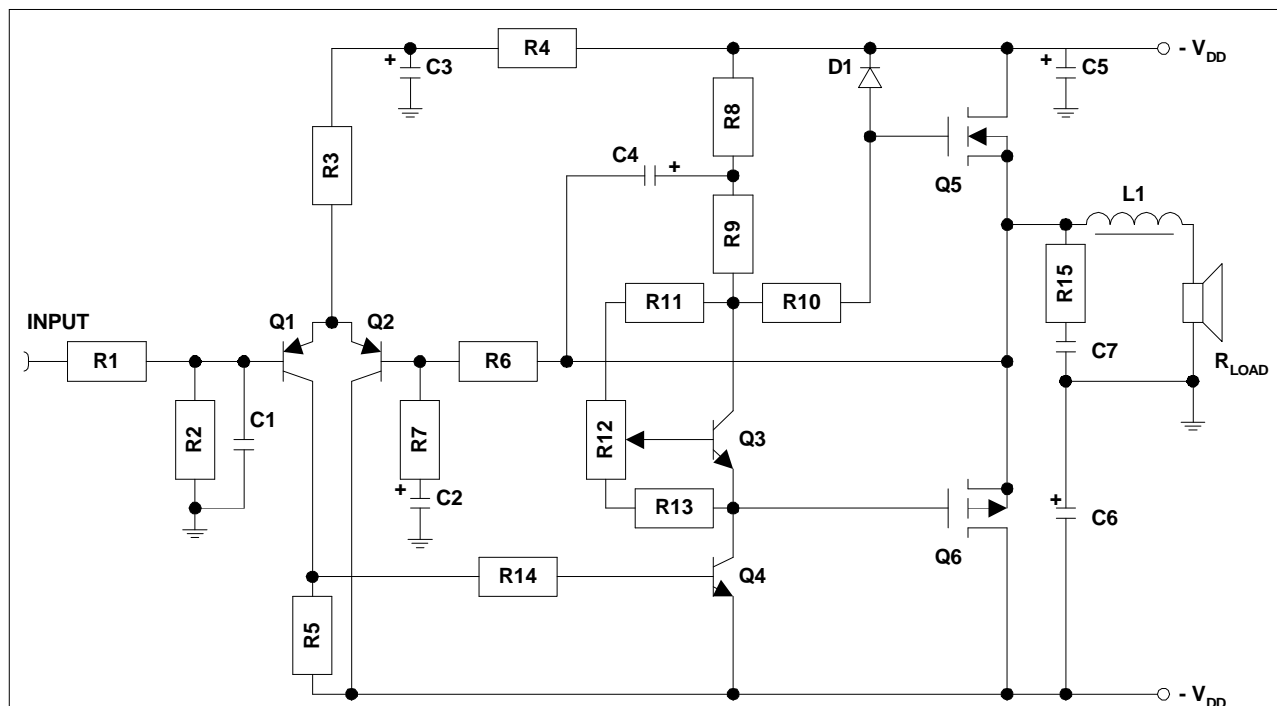
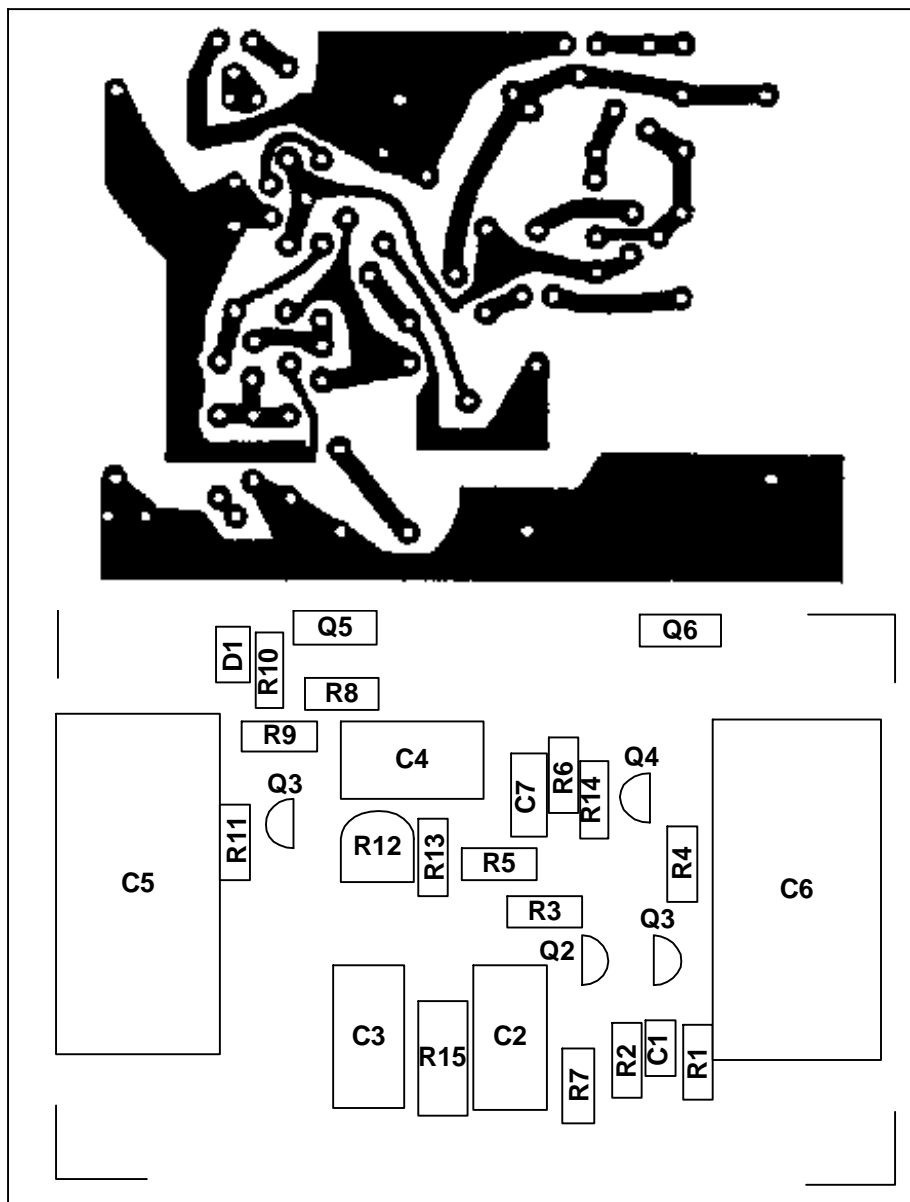
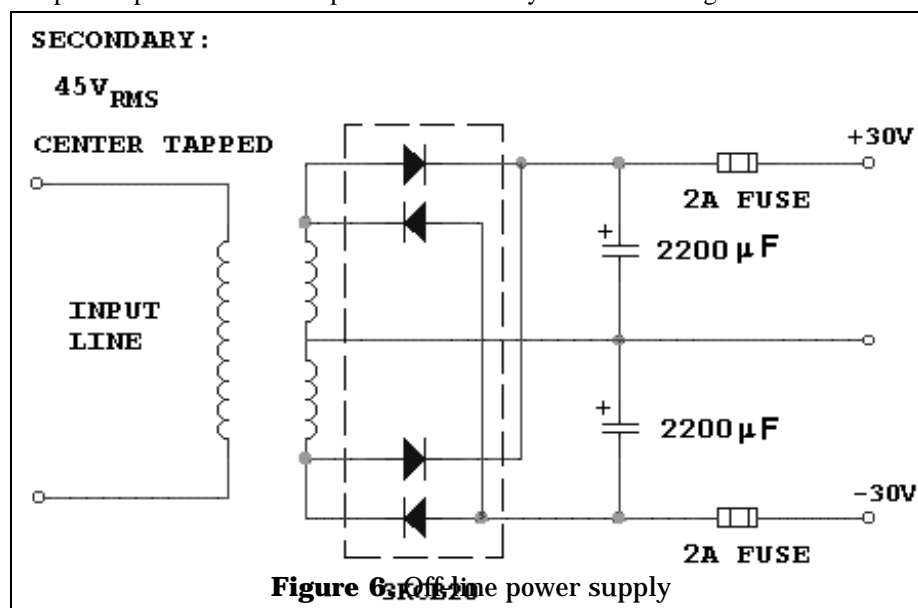

Figure 1. Class AB Amplifier Circuit Diagram
Figure 2. Amplifier Printed Circuit Board Layout
Figure 6. Off-line power supply
The amplifier circuit diagram is shown in Figure 1, and the components listing in Table 1. Split power supply rails ($\pm V_{DD}$) are used, giving improved rejection of power supply ripple and allowing the load, R_{LOAD} , to be direct coupled. The output devices Q_5 , Q_6 , operate in source follower configuration. This offers a twofold advantage; a) the possibility of oscillation in the power output stage is reduced as the voltage gain is less than unity and b) signal feedback through the heatsink on which the devices are assembled is eliminated as the drain terminal, which is electrically connected to the tab on the TO220 package, is at dc voltage.
Figure 2 shows a printed circuit layout which can be used for the circuit shown in Figure 1. The preceding design rules have been followed.
(d) *Quiescent Operating:* The dependence of the quiescent current in the output stage and of the offset voltage on power supply voltage are illustrated in Table 2. The quiescent current is set by first adjusting the potentiometer, R_{12} , for minimum offset voltage-turned fully anticlockwise if the pcb layout in Figure 2 is used - and applying the power supply voltage, the positive
A simple line derived power suitable for the class AB amplifier is illustrated in Figure 6. The $\pm 30V$ supplies are taken from the centertapped secondary of the line transformer. The $2200\mu F$ decoupling capacitors, (Figure 1) which should be mounted as close as possible to the amplifier output stage, reduce the supply frequency ripple to 5.5V pk-pk at full load.
It is unlikely that any experienced experimenter will have difficulty in achieving satisfactory results when building an amplifier to this design. The printed circuit board shown in Figure 2 is intended to assist in this respect. The major problems anticipated are those associated with the faulty assembly of components and damage to the HEXFET Power MOSFETs through handling or circuit oscillation.
1. When assembling the printed circuit board, mount the passive components first, ensuring the correct polarity of electrolytic capacitors. Then solder in the transistors $Q_1 - Q_4$ checking for correct pin identification. Finally, mount the HEXFET Power MOSFETs, avoiding static discharge by shorting the pins together to ground and using a grounded soldering iron. Check the assembled board for correct component placement. A component side overlay as shown in Figure 2 is useful for this purpose. Check the copper side of the board for solder bridges between tracks, and remove them. Check for dry solder joints visually and electrically using a resistance meter and rework, if necessary.
2. Power can now be applied to the amplifier and the output stage quiescent current set to between 50 and 100mA. The potentiometer, R_{12} is first adjusted for minimum offset (fully anticlockwise on the pcb layout in Figure 2). An ammeter is connected in series with the positive supply and selected to read 1A f.s.d. R_{12} is adjusted until the ammeter reads between 50mA and 100mA.